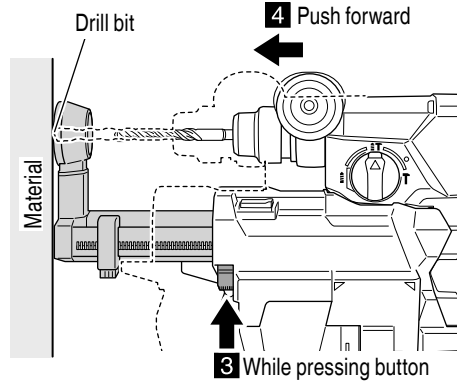

Fig. 6
- (3) While pushing the nozzle adjustment button in the direction of the arrow, press the tool toward the material, allowing the nozzle position to shorten until it reaches the position where the drill bit comes into contact with the material. (Fig. 6)